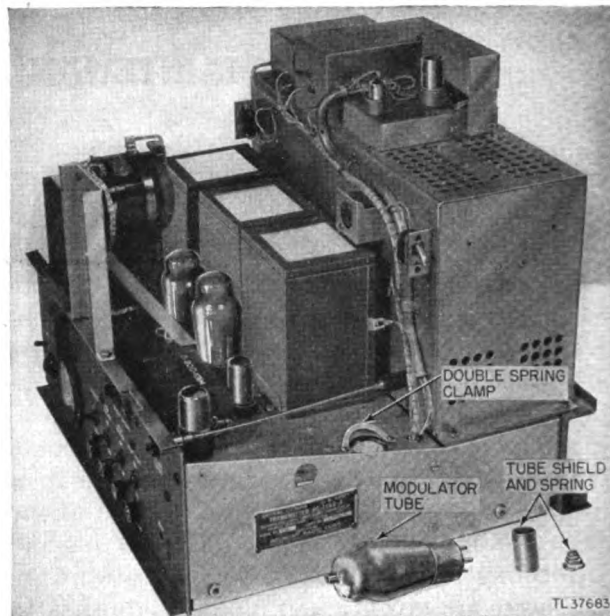

Figure 6. Transmitter—side view showing tube clips and tube shields.
**e. REMOVAL OF TUBES FROM SOCKETS.** (1) The low-voltage power supply and modulator tubes in the transmitter are each held in place by a double spring clamp at the base of the tube (fig. 6). To remove a tube, press down on both sides of the clamp and gently raise the tube from the
(3) The mixer tube of the receiver is located on the top of the radio-frequency amplifier chassis. This tube may be removed by removing its metal shield first (fig. 6). Unscrew the metal shield, lift it and the tube spring off the top, then grasp the glass envelope of this tube between thumb and forefinger and rock it gently before pulling the tube from the socket.
(4) To remove the tuning indicator tube, it is necessary to remove the bottom plate of the receiver chassis. Remove the 14 screws holding this baseplate to the chassis and lift the plate off. The tube and its socket may then be pulled from the tube mounting assembly. Then remove the tube from its socket.